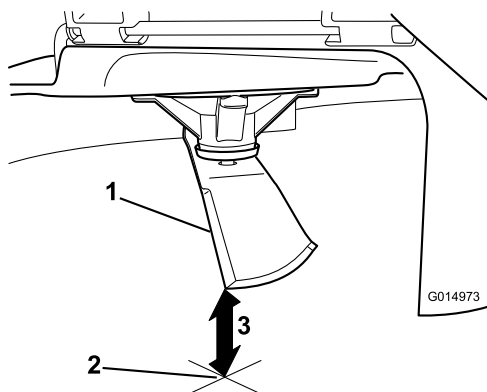

Figure 98
3. Measure from the tip of the blade to the flat surface (Figure 98).